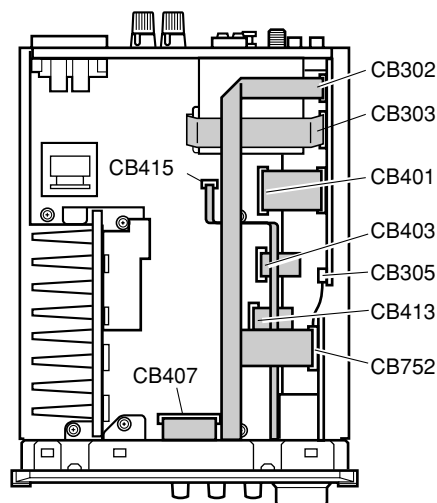
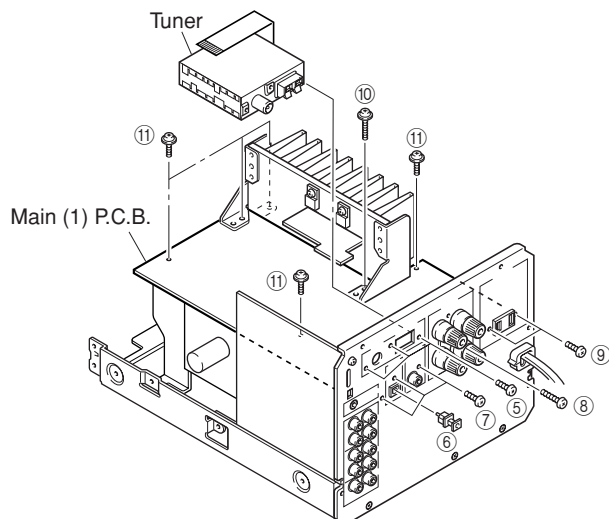

Fig. 2
Fig. 3
- Disconnect cables from Connectors (CB752, CB415, CB407, CB305, CB302) in Fig. 2.
- Disconnect a cable from Connector (CB303) in Fig. 2.
- Remove 3 screws (⑤) and then remove the Tuner in Fig. 3.
4. Removal of MAIN (1) P.C.B.
- Disconnect cables from Connectors (CB413, CB403, CB401) in Fig. 2.
- Remove the cap (⑥) from the Digital Output Terminal in Fig. 3.
- Remove 3 screws (⑦), 1 screw (⑧) and 2 screws (⑨) in Fig. 3.
- Remove 1 screw (⑩) and 5 screws (⑪) and then remove the MAIN (1) P.C.B. in Fig. 3.